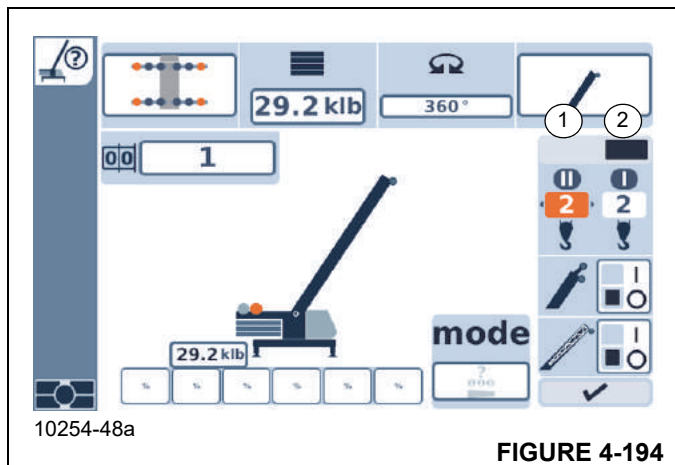

FIGURE 4-194
The load is planned to be raised with the auxiliary hoist, for example. However, the hoist indicator (2, Figure 4-194) for the main hoist is on and the indicator (2) for the auxiliary hoist is off.
The hoist indicator will now be displayed above the auxiliary hoist icon (1, Figure 4-194).